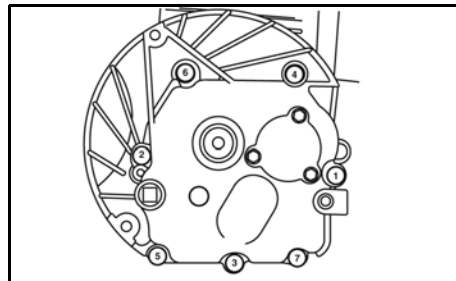

Figure 21
- Figure 21 - Vertical Shaft Models 110000 and 120000.